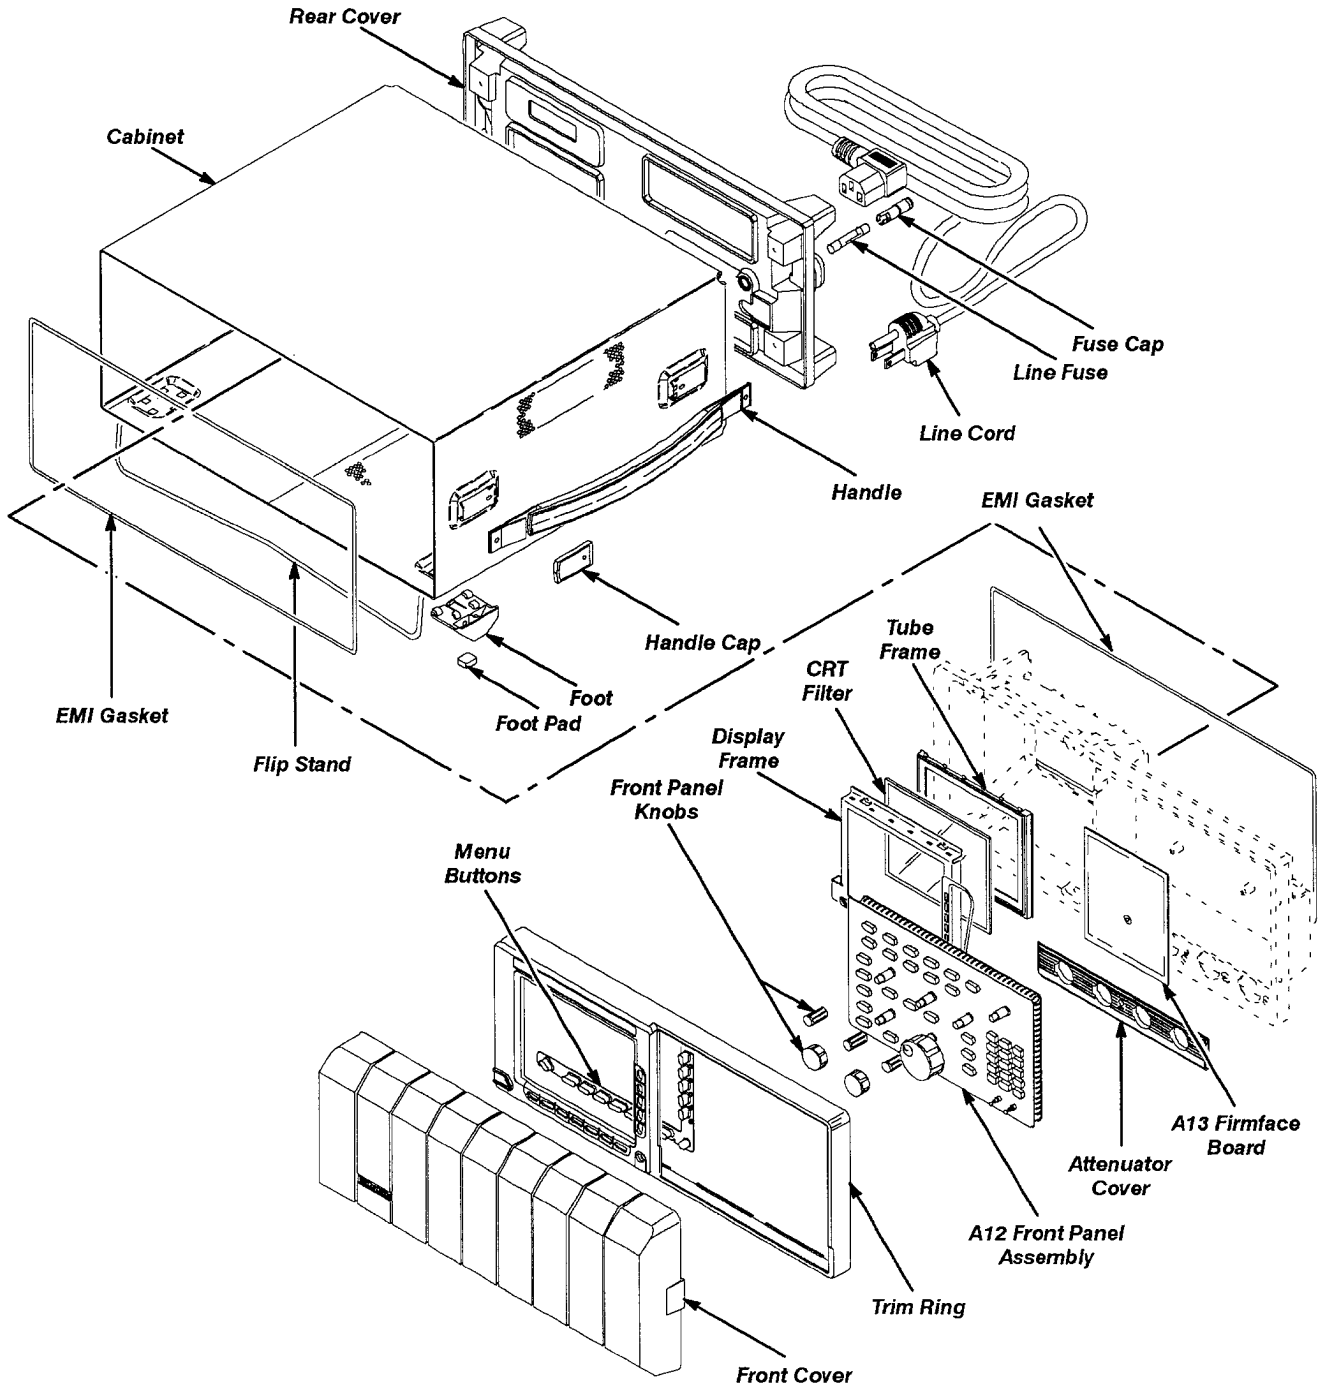

Figure 6-1: External Modules
- a. Find the module to be removed in the module locator diagrams, Figures 6-1 through 6-3.
1. *Assemble equipment and locate modules to be removed:* Have handy a flat-bladed screwdriver (Item 5). Locate the line fuse and line cord in the locator diagram *External Modules*, Figure 6-1.
- c. Locate the rear cover and cabinet in the locator diagram *External Modules*, Figure 6-1.
- b. Locate the modules to be removed in the locator diagram *External Modules*, Figure 6-1.
1. *Assemble equipment and locate modules to be removed:* No tools are needed. Locate the modules to be removed in the locator diagram *External Modules*, Figure 6-1.